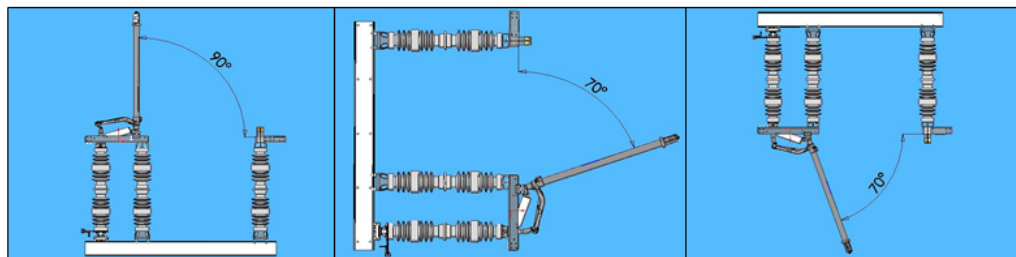
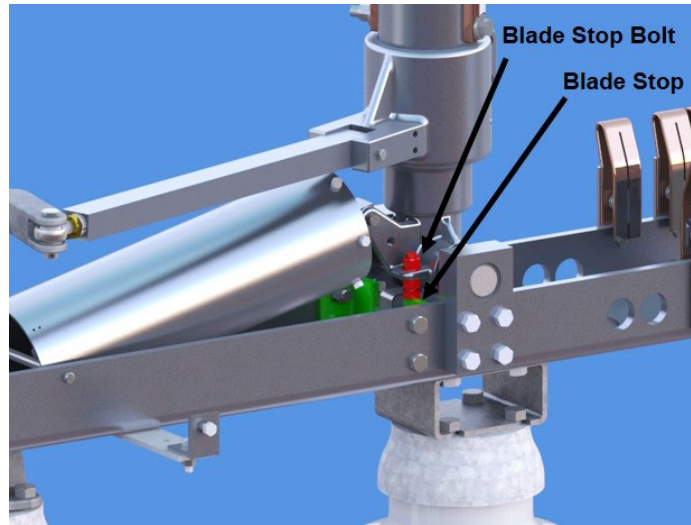

Figure 10: Proper Mounting Positions
Figure 11: BLADE STOP (OPEN POSITION)
- 4.6. The Mounting Positions and Proper Blade Openings are shown in **Figure 10**.
- 4.6.1. Conventional blade open positions are shown in **Figure 10**. The EV-2H switch will be shipped with one of these blade open angles unless another angle is specified. Slight changes to the blade fully open angles are easily made in the field. Simply adjust the open position stop bolt on the blade carrier assembly shown in **Figure 11**, and then readjust the stop located at the bottom of the rotating insulator to match the blade angle.